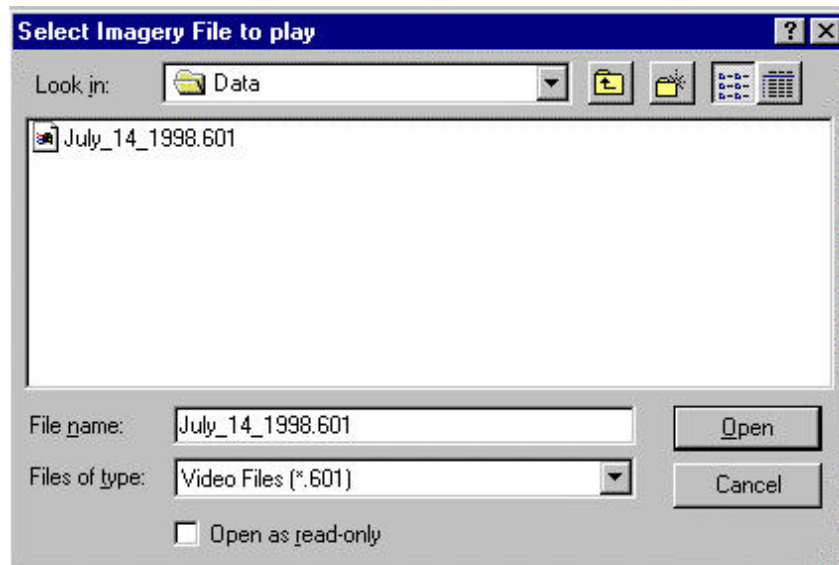

Figure 3.12 VCR Functions/Play Images from File
2. The “Select Imagery File to play” window (Ref to Fig 3.12) will appear. Use the mouse and keyboard to select the desired file.